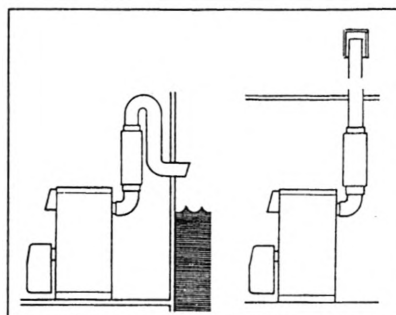

Figure 4
- Make sure that the outlet is positioned at a sufficient height above the waterline. If this not possible use a swan neck bend in the pipe as in figure 4.
- Install a proper storm cowl on top of the chimney (this must stop rain from entering)(figure 4)